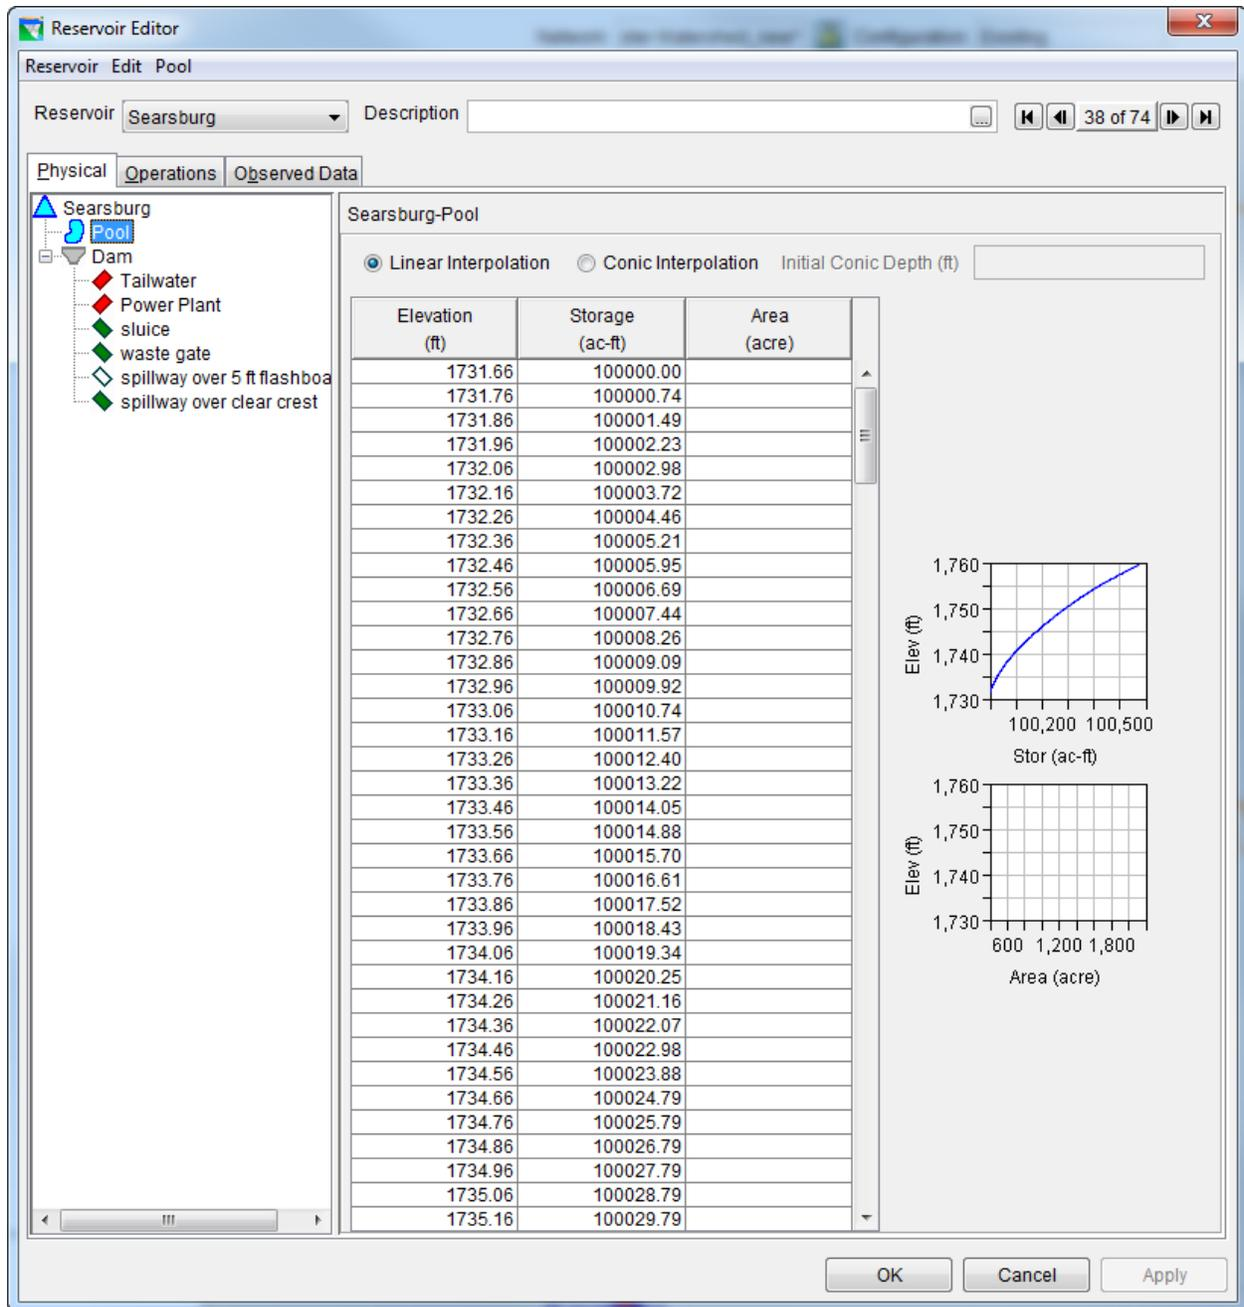
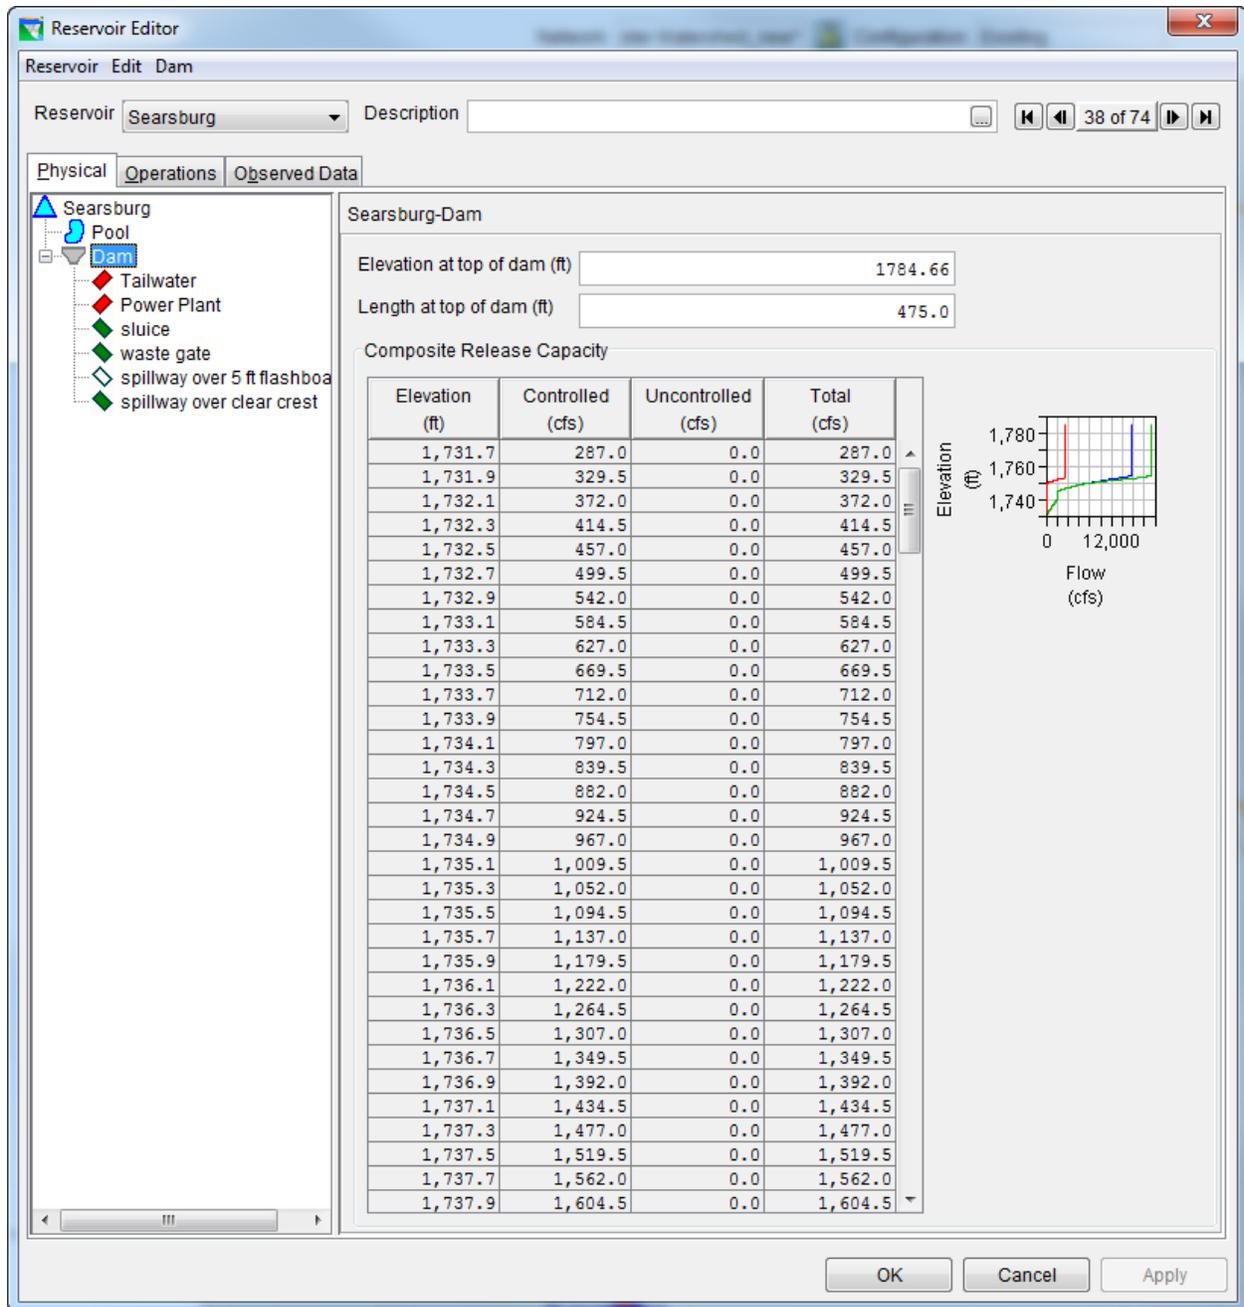

Figure 3: Reservoir Editor: Physical Tab -- Pool
Figure 4: Reservoir Editor: Physical Tab -- Dam
The physical characteristics of the reservoir are separated between the Pool and the Dam in the HEC-ResSim model. The elevation-storage-area defines the pool as shown in Figure 380. The dam consists of three types of outlets: (1) controlled sluice gates, (2) controlled spillway, and (3) power plant as shown in Figure 4.
The physical characteristics of the reservoir are separated between the Pool and the Dam in the HEC-ResSim model. The elevation-storage-area defines the pool as shown in Figure 381. The dam consists of two types of outlets: (1) uncontrolled outlet and (3) power plant as shown in Figure 41,82. The capacity of the power plant was made to be the maximum release specified in the NID database so that the dam would modeled completely as run-of-river with some actual physical information
The physical characteristics of the reservoir are separated between the Pool and the Dam in the HEC-ResSim model. The elevation-storage-area defines the pool as shown in Figure 383. The dam consists of five types of outlets: (1) controlled sluice, (2) controlled waste gate, (3) uncontrolled spillway over 5ft flashboards, (4) spillway over clear crest, and (5) power plant as shown in Figure 4.